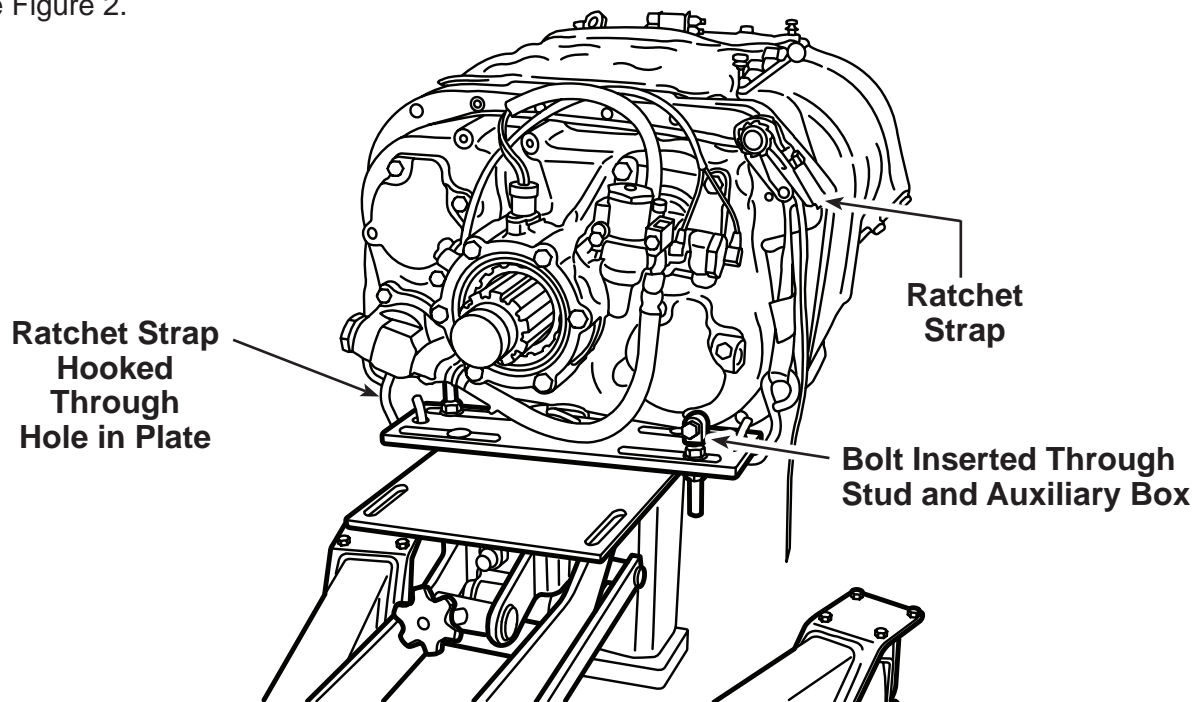

Figure 2
6. Move the jack under the transmission, aligning the stud with the hole where the bolt was removed in the auxiliary box. Insert the bolt through the stud and into the auxiliary box. See Figure 2.
8. Install the ratchet strap to secure the auxiliary box to the transmission jack. See Figure 2. Attach the hooks on the end of the ratchet strap to the slots provided in the mounting plate or other suitable locations.